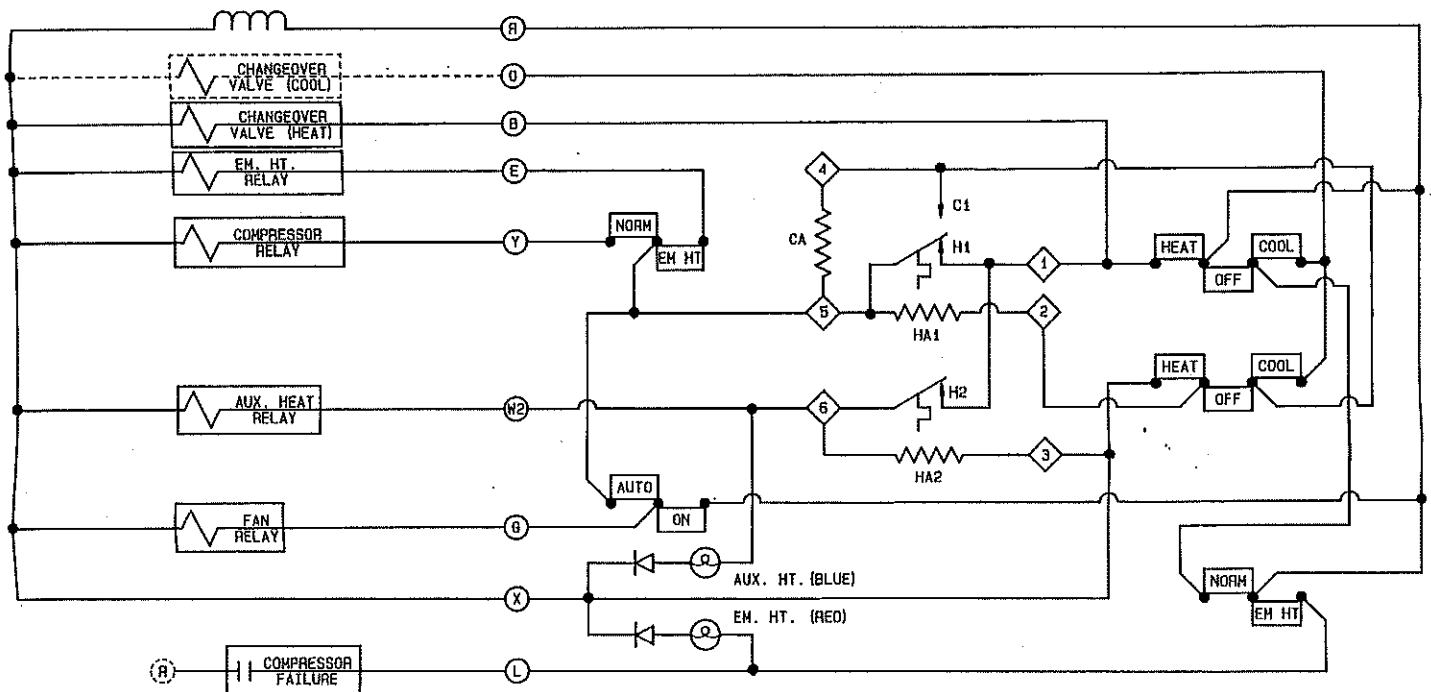

Figure 3 Internal Wiring Schematic
2. Connect leads to terminals per unit diagram or hook-up diagram. Refer to Installation Instructions of the heat pump and Figure 3 for wiring instructions.